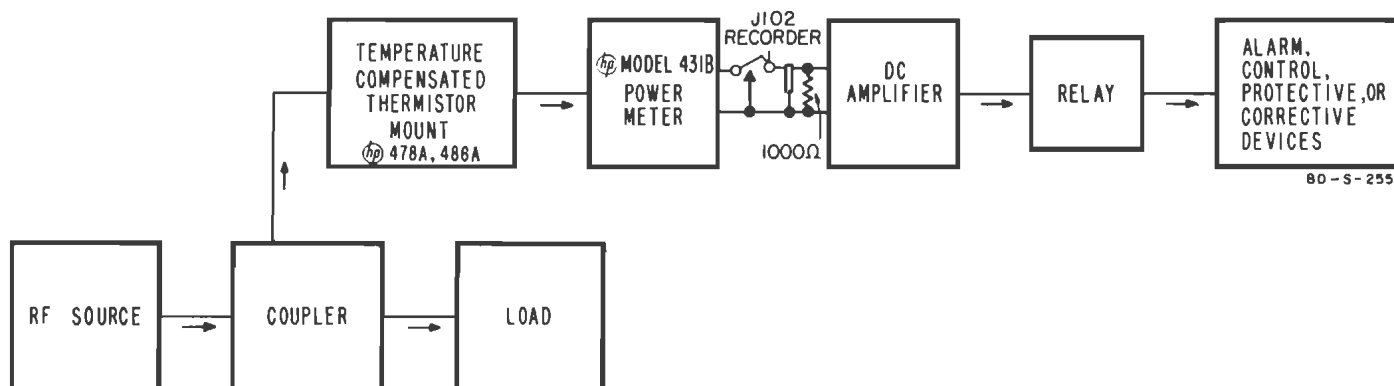

Figure 3-7. Monitor Control Systems
**3-29. MONITOR CONTROL SYSTEMS.** By adding a dc amplifier and relay circuit to the rf monitoring arm of a system, the dc signal provided by the Model 431B can be used to actuate alarm or control circuits. Arrangement of equipment to provide an alarm or control system is shown in block diagram form in figure 3-7.